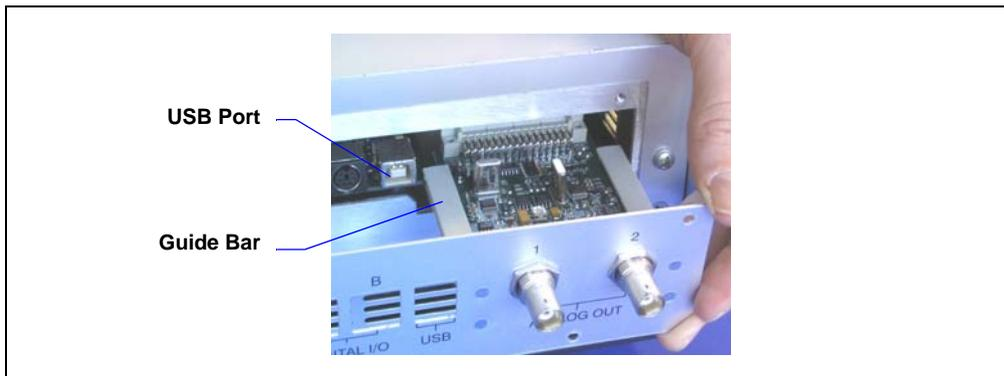

Figure B-10. Installing the DAC Plug-In Module
- Slide the guide bar of the DAC plug-in module onto the green edge next to the USB port (see Figure B-10).